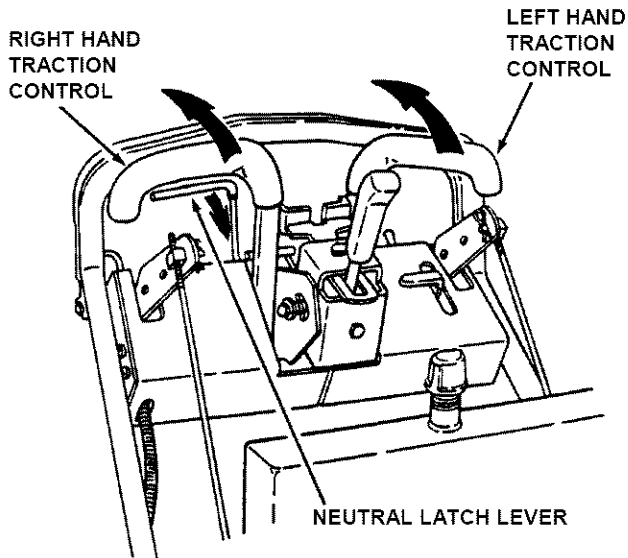

FIGURE 3.2
1. Pull back on both Traction Controls simultaneously towards handle bar. Manually engage the Neutral Latch Lever. See Figure 3.2.